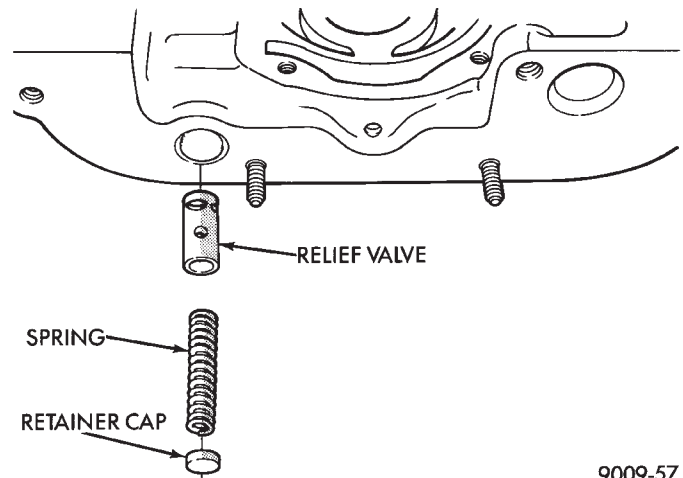
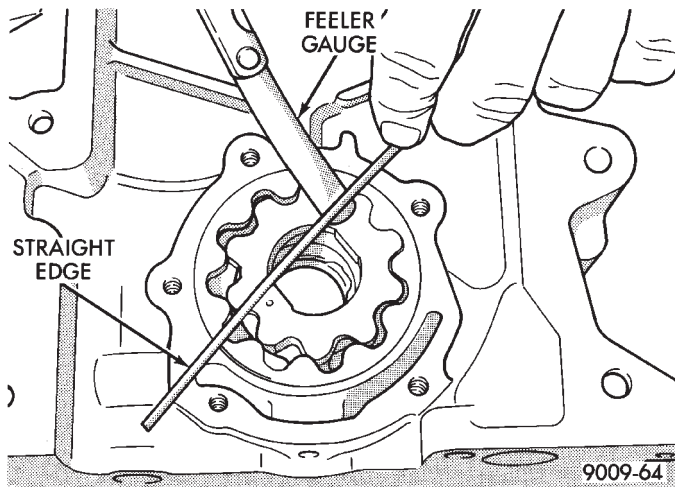

Fig. 5 Oil Pressure Relief Valve
Fig. 12 Measuring Clearance Over Rotors
(b) Clamp screw into a vise and while supporting chain case cover (CCC), remove cap by tapping CCC using a soft hammer. Discard retainer cap and remove spring and relief valve (Fig. 5).
(7) Place a straightedge across the face of the CCC, between bolt holes. If a feeler gauge of .102mm (.004 inch) or more can be inserted between rotors and the straightedge, replace pump assembly (Fig. 12). **ONLY** if rotors are in specs.
(8) Inspect oil pressure relief valve plunger for scoring and free operation in its bore. Small marks may be removed with 400-grit wet or dry sandpaper.
(9) The relief valve spring has a free length of approximately 49.5mm (1.95 inch) and should test between 19.5 and 20.5 pounds when compressed to 34mm (1-11/32 inches). Replace spring that fails to meet specifications (Fig. 5).